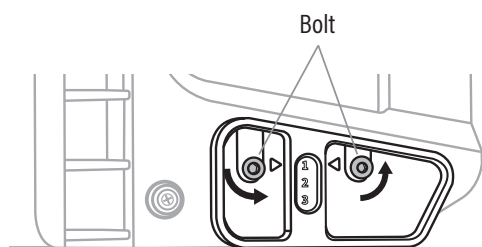

Fig. 1A
- In practice, when working on flat surfaces, it is common to keep the skid shoes in "1" position with the impeller housing close to the ground. (Fig. 1A)